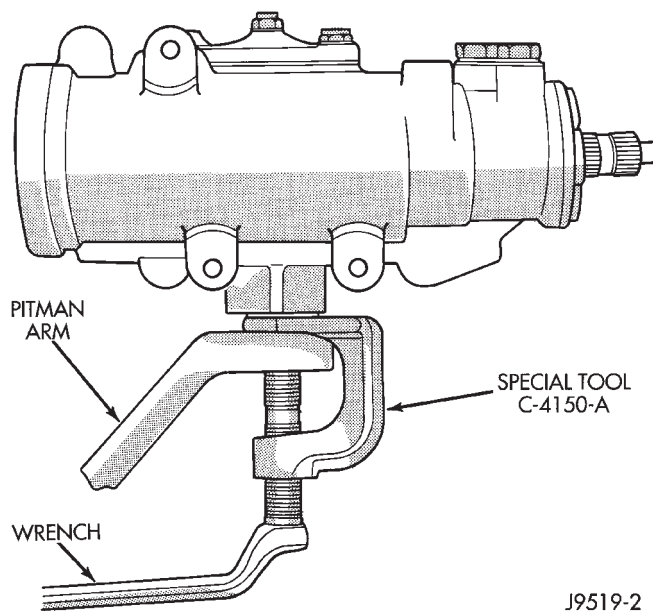

Fig. 4 Pitman Arm Removal
- (1) Remove the cotter pin and nut from the drag link at the pitman arm.
- (2) Remove the drag link ball stud from the pitman arm with a puller.
- (3) Remove the nut and washer from the steering gear shaft. Mark the pitman shaft and pitman arm for installation reference. Remove the pitman arm from steering gear with Puller C-4150-A (Fig. 4).
(2) Install the washer and nut on the shaft. Tighten the nut to 251 N·m (185 ft. lbs.) torque.
(3) Install drag link ball stud to pitman arm (Fig. 4). Install and tighten nut to 74 N·m (55 ft. lbs.) torque. Install a new cotter pin.